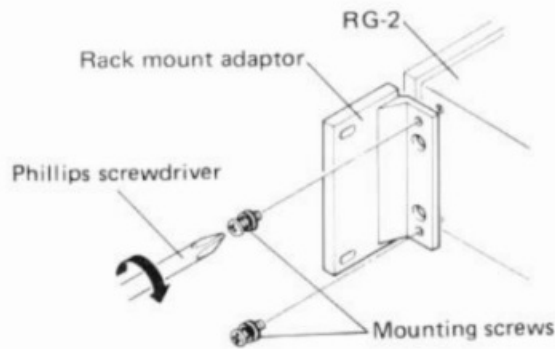

Fig. 8
2. Secure the rack mount adaptors onto the sid panels with the accessory mounting screw (M4x10). (Fig. 8)